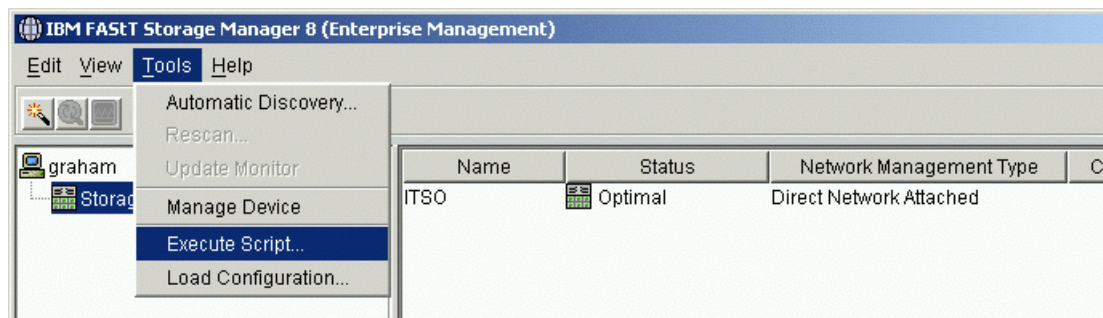

Figure 3-7 Starting the Script Editor
2. Click **Tools-> Execute Script** as shown in Figure 3-7, or right-click and select **Execute Script**.